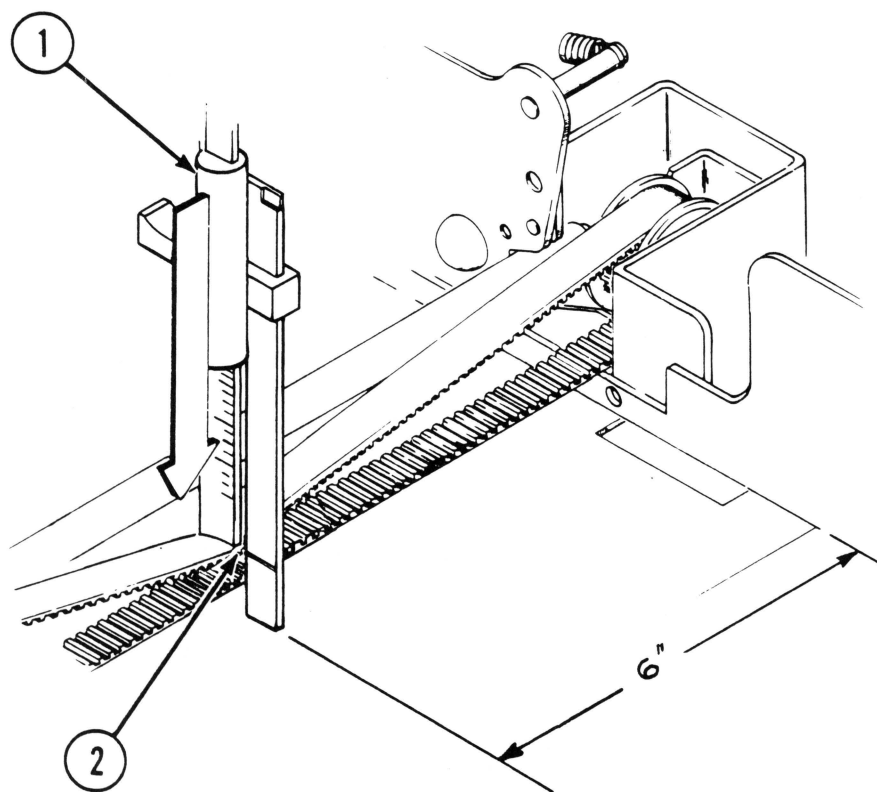

FIGURE 17
3. Use a spring scale to push directly down on the drive belt with one pound of force (see Figure 17, #1). At this same point on the drive belt, use the number 1 scribe line on the combo gauge to measure the distance between the top of the drive belt (the upper section) and the printer's bottom structure. When the gauge is resting on the bottom structure, the number 1 scribe line on the gauge should be even with the top of the belt (see Figure 17, #2).